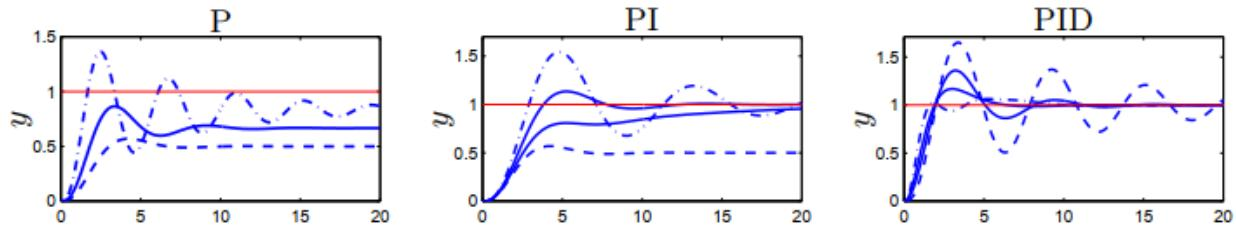

Figure 2- the controller parameters are  $k = 1$  (dashed), 2 and 5 (dash-dotted) for the P controller,
There are three basic feedback control actions: proportional( $k_p$ ), integral( $k_i$ ) and derivative( $k_d$ ). Proportional control action is generated based on the current error, the integral control action is generated based on the past error, and the derivative control action is generated based on the anticipated future error. Integral of the error can be interpreted as the past information about it. Derivative of the error can be interpreted as a measure of future error. Based on these three control types, multiple other controllers can be created, such as proportional (P) controller, proportional-integral (PI) controller, proportional-derivative (PD) controller, and proportional-integral-derivative (PID) controller, to achieve desired control performance. At any given time, the control signal  $u(t)$  is defined as the following, note that  $e$  is the control error(target – actual). Figure 2 shows three types of controllers using different controller parameters.